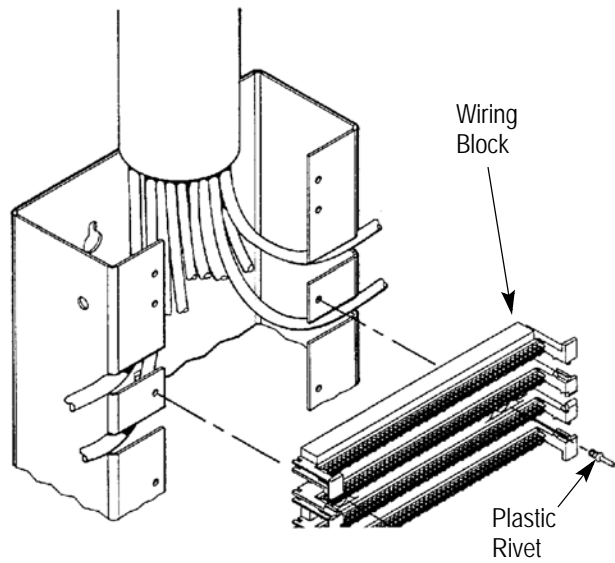

Figure 3
1. Secure wiring block to frame with two plastic rivets (included). Set rivet with impact to center pin. Attach all wiring blocks. See Figure 3.